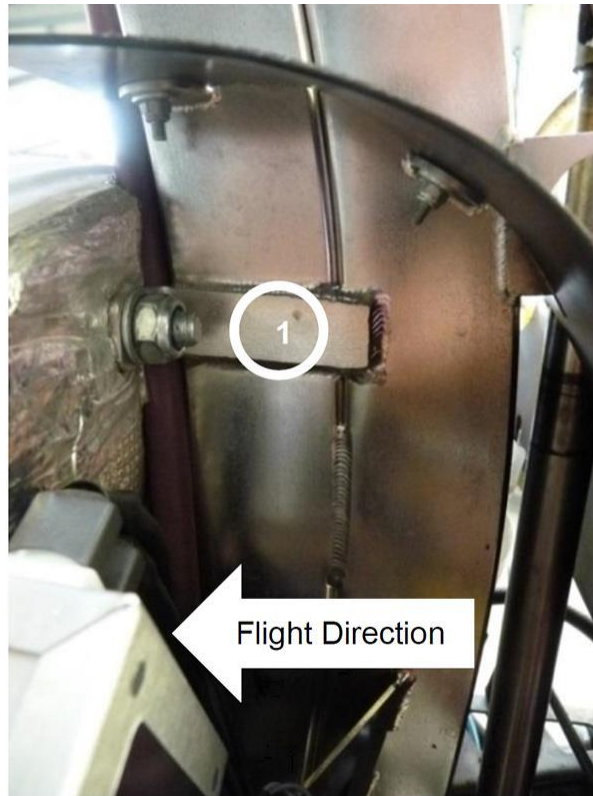

Fig. 1 - Pull lug
- 2 Inspect weld seams of pull lugs (Fig. 1) on left side for (hairline) cracks.